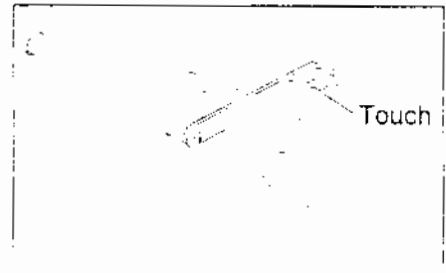

Figure 14
2. The display will read "CAL DIS". Rotate the arm a few inches toward the operator position. Move the gauge rod to the rear edge of the backplate, make sure the arm touches the backing plate and the locator ring rests on top of the backing collar. The display will read "CAL PEA" (Parameter Entry Arm) See *Figure 14*.